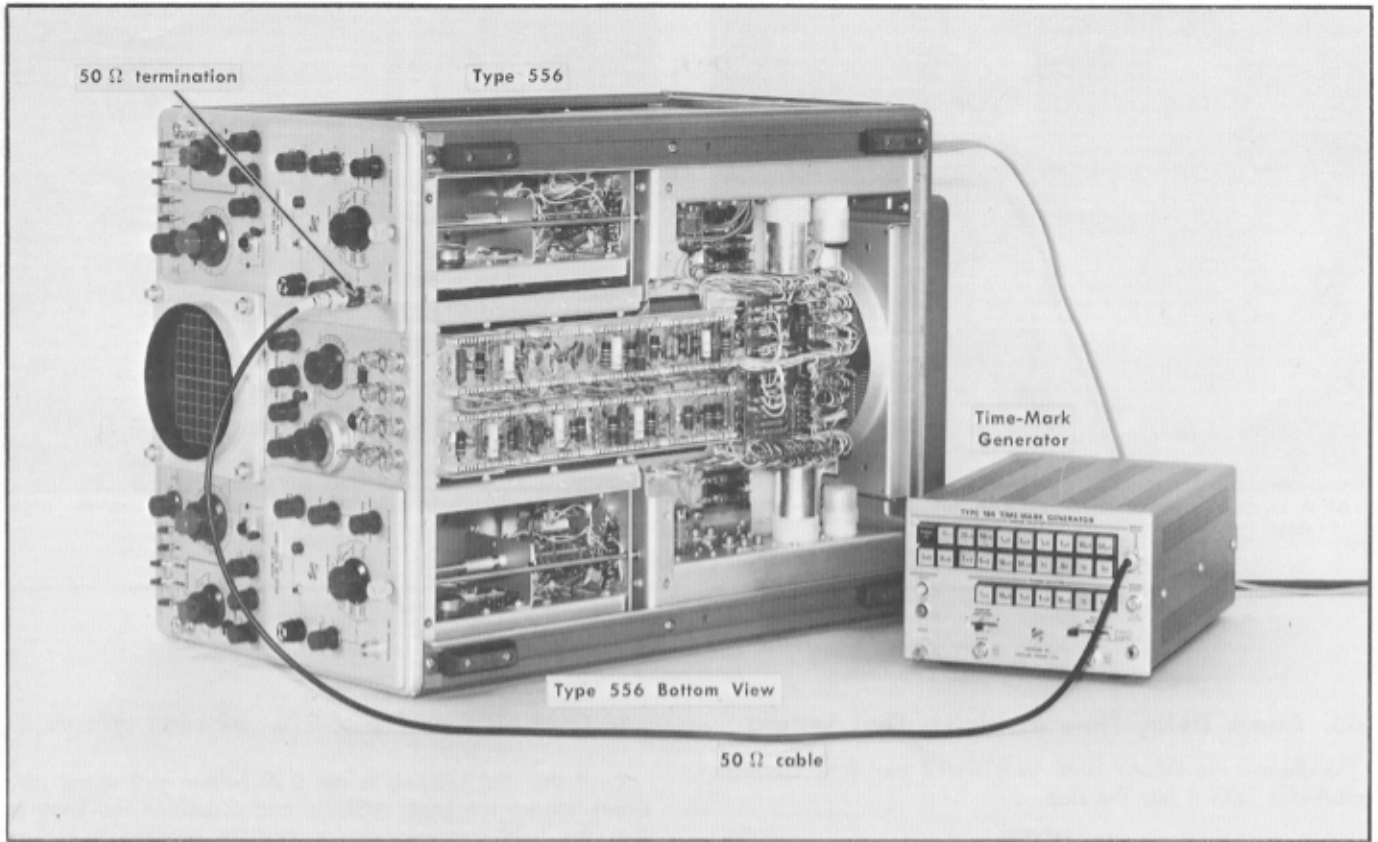

Fig. 6-40. Test setup for adjusting Delay Start and Stop.
- a. The test setup is shown in Fig. 6-40.